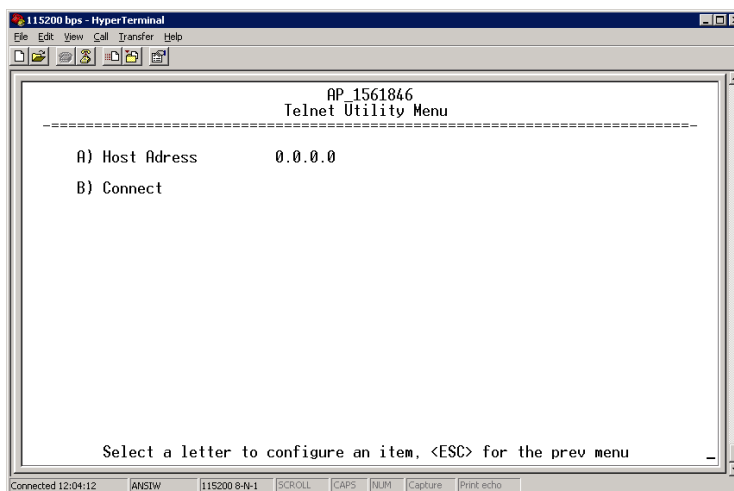

Figure 3-88. Telnet Utility Menu
- ✘ **Telnet Utility** A submenu for opening Telnet connections to network devices (Figure 3-88 on Page 114).